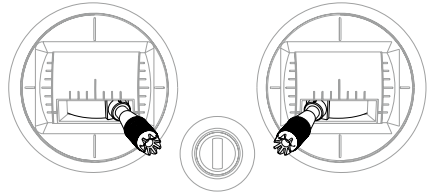

Figure 19
- (1) As shown in the Figure 19, simultaneously move the left stick to its bottom right corner and right stick to its bottom left corner.
- (2) When the propellers start to spin, loose the sticks and let them back to the Middle.